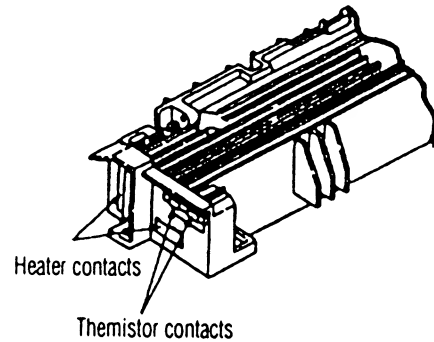

Figure 6-2
Measure the resistance between thermistor contacts (about 220k Ω at room temperature) (see Fig. 6-2 or see 7.3).
Measure the resistance between the heater contacts (normal resistance: about 0 Ω) (see Fig. 6-2 or see 7.3).
• No Is the AC voltage being supplied to the contacts for the heater of the contact assembly? (Refer Fig. 6-2)